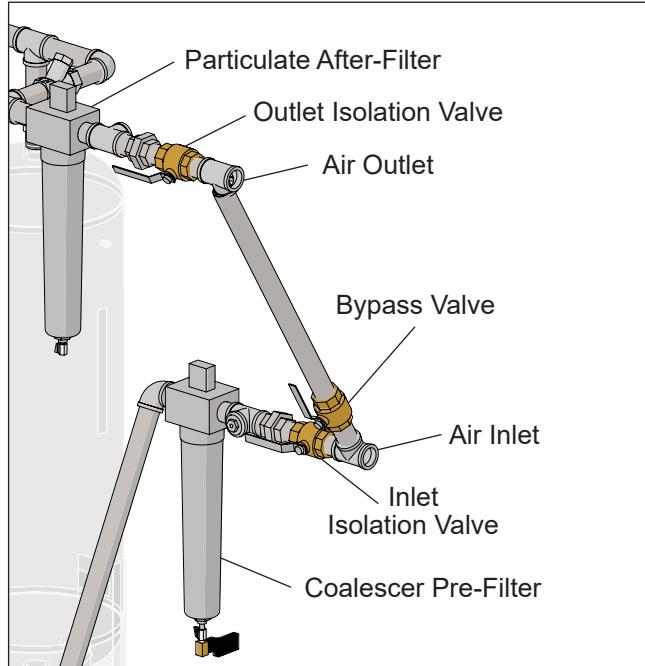

Figure 5.13 — Inlet Isolation Valve
- a. Slowly open the inlet isolation valve (refer to Figure 5.13) until the dryer has been pressurized to 50 PSIG.